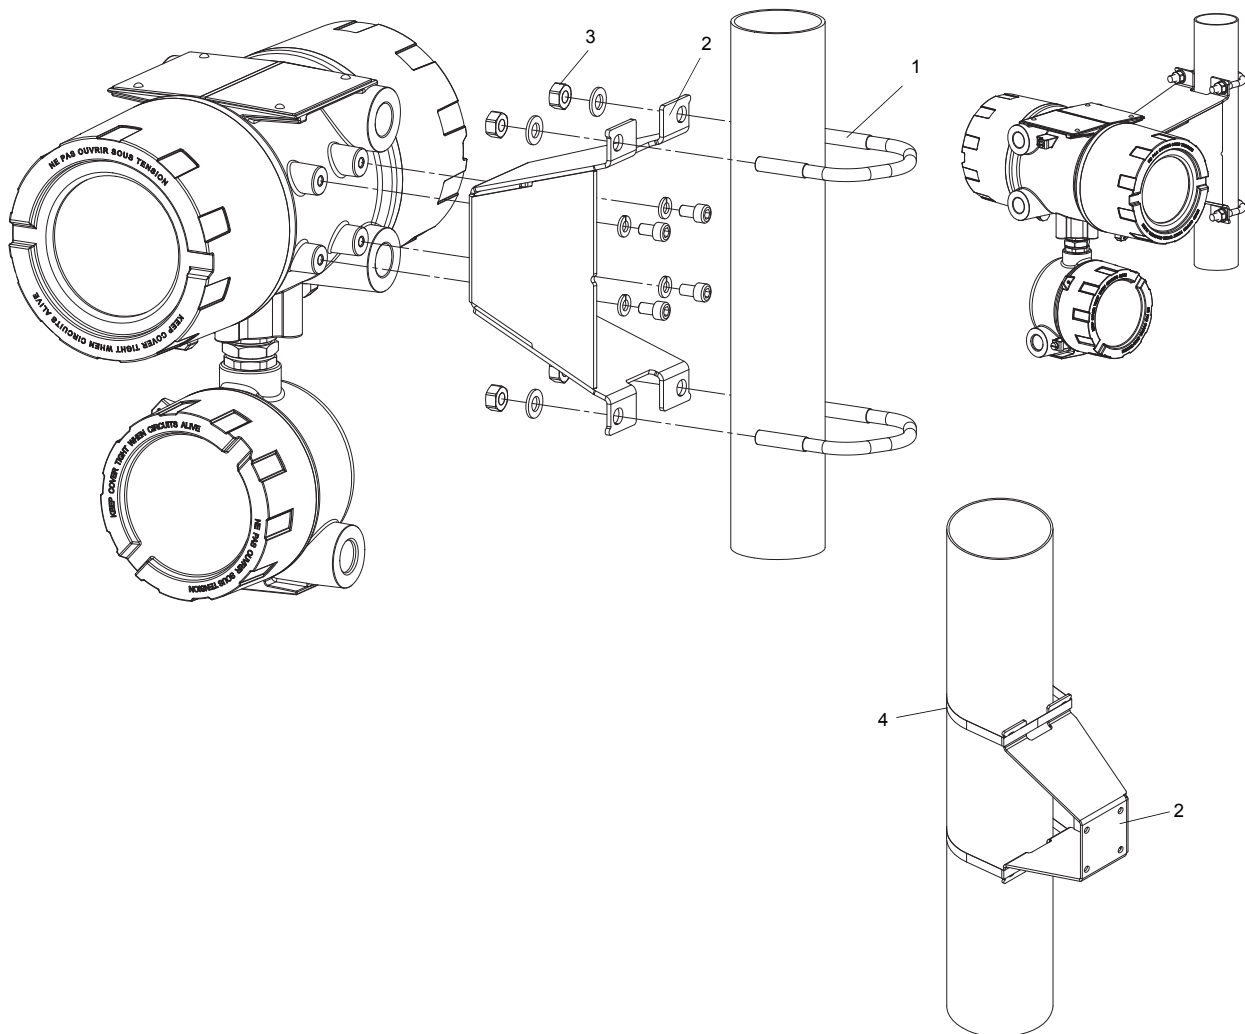

Fig. 7.3: Pipe installation
The instrument mounting plate (2) is fixed to the pipe using a shackle (1) (see Fig. 7.3).
- Tighten the nuts (3) to fix the transmitter with the shackle to the pipe.
The instrument mounting plate (2) is fixed to the pipe using tension straps (see Fig. 7.3).
- Fix the instrument mounting plate (2) to the pipe using tension straps (4) instead of shackles (1).